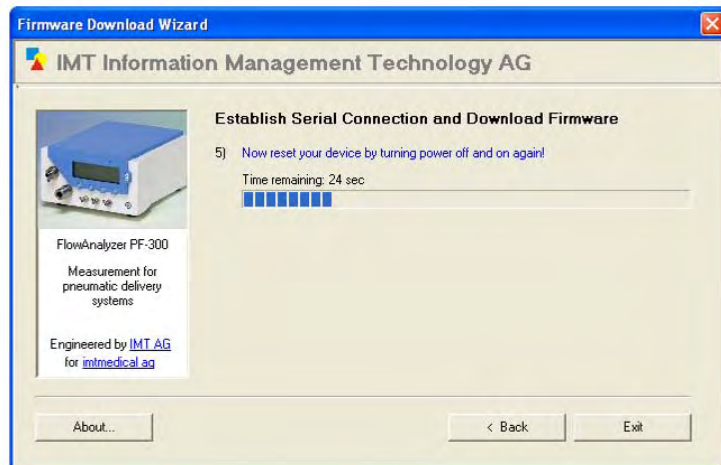

Figure 12-4
- The next step, shown in Figure 12-4 attempts to establish communication with the ventilator through the appropriate Com port.